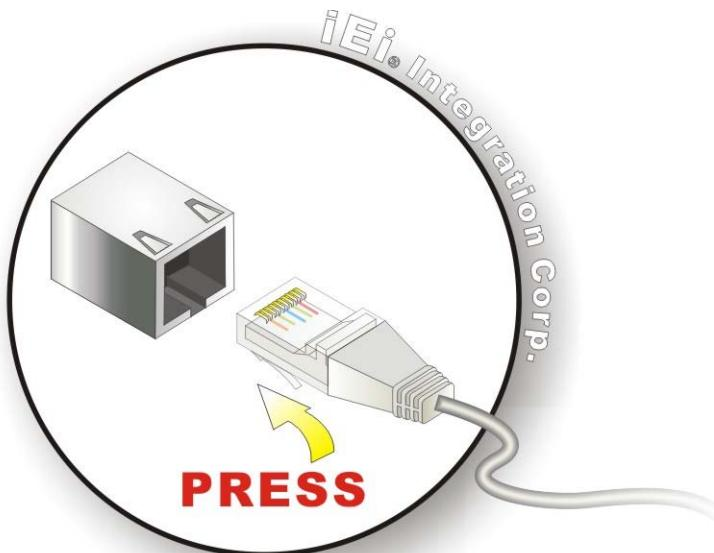

Figure 4-21: LAN Connection
Step 2: Align the connectors. Align the RJ-45 connector on the LAN cable with one of the RJ-45 connectors on the IMBA-Q870-i2. See **Figure 4-21**.